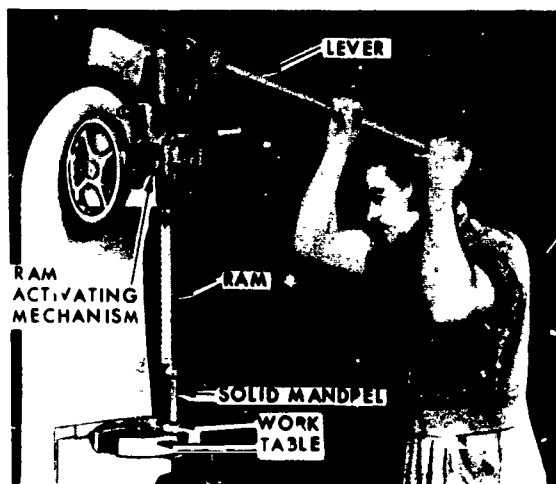

Figure 5-65. Using an arbor press to install a mandrel.
**Exercises (277):**
**Installing a mandrel.** On occasion you may be required to install a mandrel, as shown in figure 5-65. The key to pressing a mandrel, or any other parts for that matter, is to make sure the parts are sitting flat on the worktable and in alignment with each other. They must also be in line with the travel of the ram, so that the ram can press squarely on them to help insure a smooth, even press that does not gall the pressed part. As an additional aid in the pressing operation, you can use a lubricant on the press fitted area to further prevent galling.